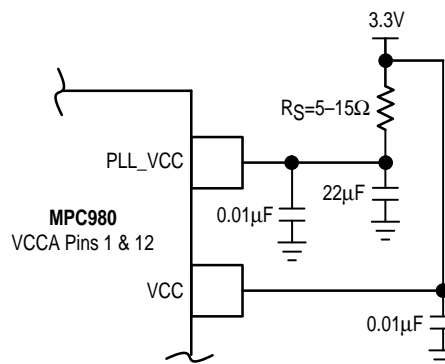

Figure 3. Power Supply Filter
1. The filter recommended for the analog power pins is found in Figure 3 in the Applications Information section on page 5.
Figure 3 illustrates a typical power supply filter scheme. The MPC980 is most susceptible to noise with spectral content in the 1KHz to 1MHz range. Therefore the filter should be designed to target this range. The key parameter that needs to be met in the final filter design is the DC voltage drop that will be seen between the VCC supply and the VCCA pin of the MPC980. From the data sheet the I_{VCCA} current (the current sourced per VCCA pin) is typically 15mA (20mA maximum), assuming that a minimum of 3.0V must be maintained on the VCCA pin very little DC voltage drop can be tolerated when a 3.3V VCC supply is used. The resistor shown in Figure 3 must have a resistance of 10–15Ω to meet the voltage drop criteria. The RC filter pictured will provide a broadband filter with approximately 100:1 attenuation for